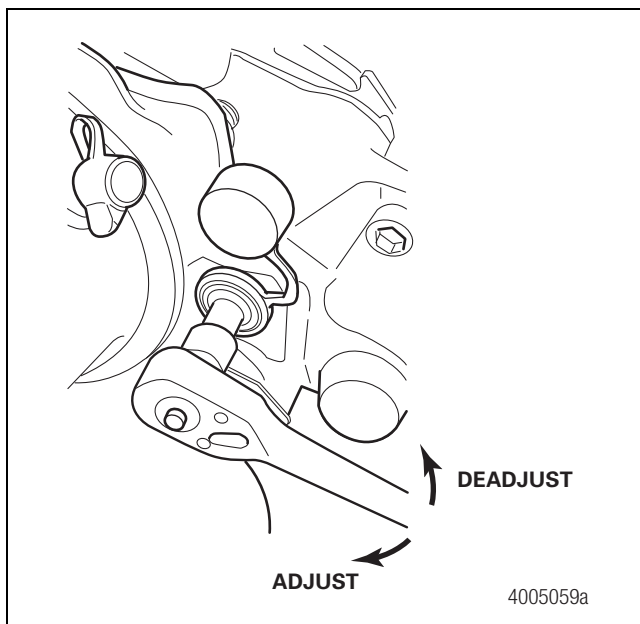

Figure 7.3
8. For disc brake wheel ends, back off the brake caliper until the rotor is clear from the pad linings about 1/16-inch (1.588 mm) gap or more. Refer to Maintenance Manual MM-0467, EX+™ Air Disc Brake, for more information about EX225 disc brake inspection and adjustment. To obtain this publication, refer to the Service Notes page on the front inside cover of this manual. Figure 7.3.